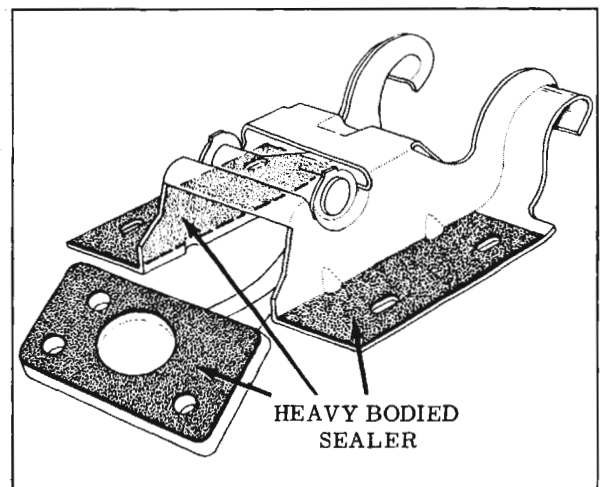

Fig. 16-283 Back Door Hinge (Anti-Squeak)
3. To install back door assembly, first, as an anti-squeak precaution, apply a coat of heavy-bodied sealer to attaching surfaces of both hinges. (Fig. 16-283) Then, reverse removal procedure. Align back door with previously made hinge marks.
2. As an anti-squeak precaution, apply a coat of heavy-bodied sealer to surfaces of hinge which contact body and back door. (Fig. 16-283)